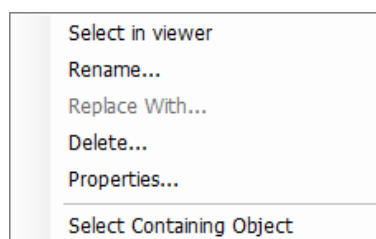

Figure 62: New-Point List Context Menu
2. Right-click on a New Point to display the New-Points list context menu. Various functions are provided to manage new points, as shown in Figure 62.